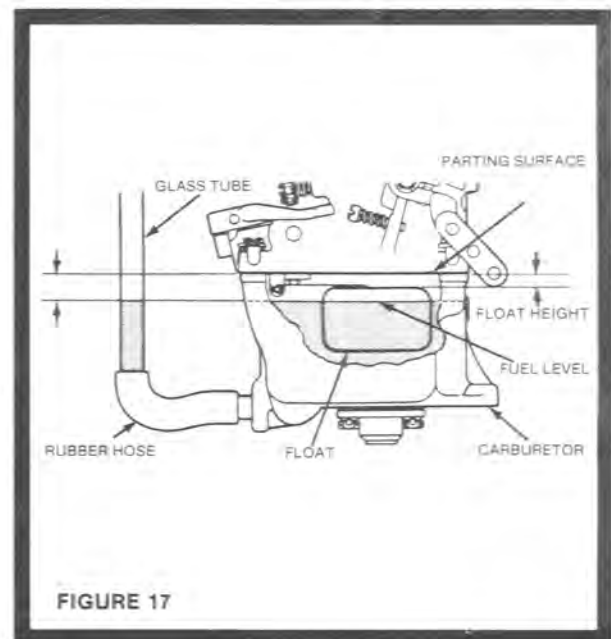

FIGURE 17
FLOAT VALVE AND SEAT TEST (See Figure 17)
- E.** With fuel supplied to the carburetor as shown in Figure 17, operate the throttle lever for several strokes to fill the accelerating pump and passages. Then close the throttle, open it